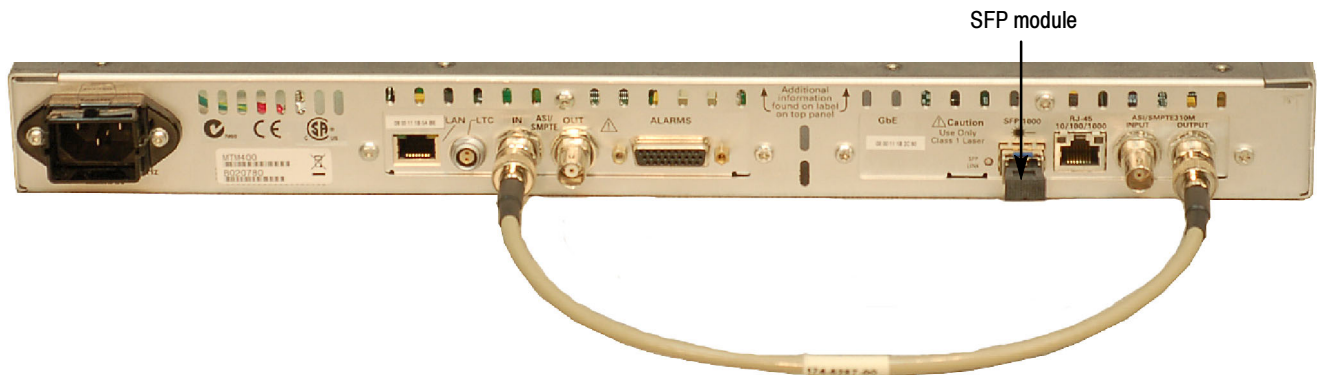

Figure 27: Monitoring ASI and GbE signals - GbE interface only
- b. Connect the ASI cable supplied in this kit between the ASI/SMPTE310M Out connector on the interface card to the ASI In connector on the Transport Stream Processor card (see Figure 27).